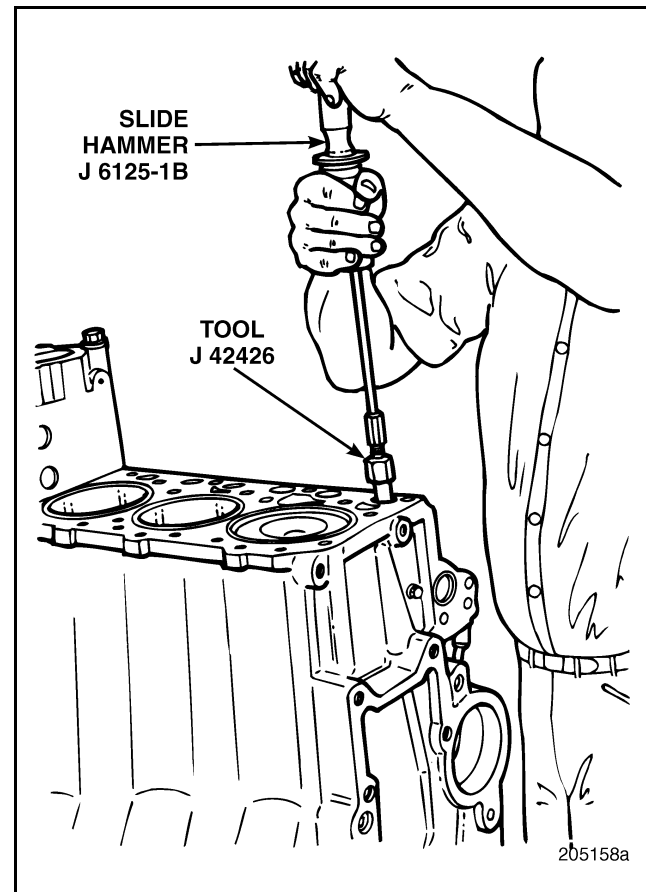

Figure 194 — H-Ring Removal
1. Remove the affected H-ring, using remover tool J 42426 in combination with slide hammer J 6125-1B. Refer to Figure 194.